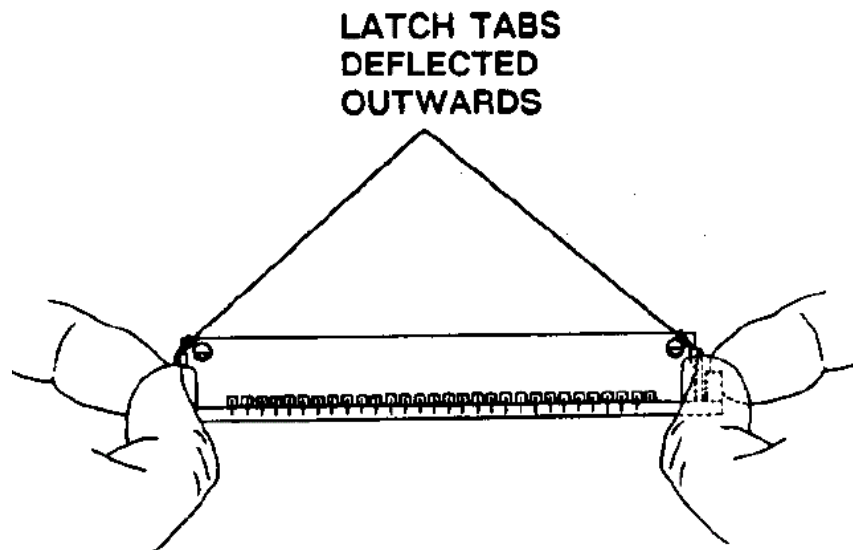

Figure 2
3. Place the tips of the index fingers on the ends of the connector housing of the board to be removed (see figure 2).